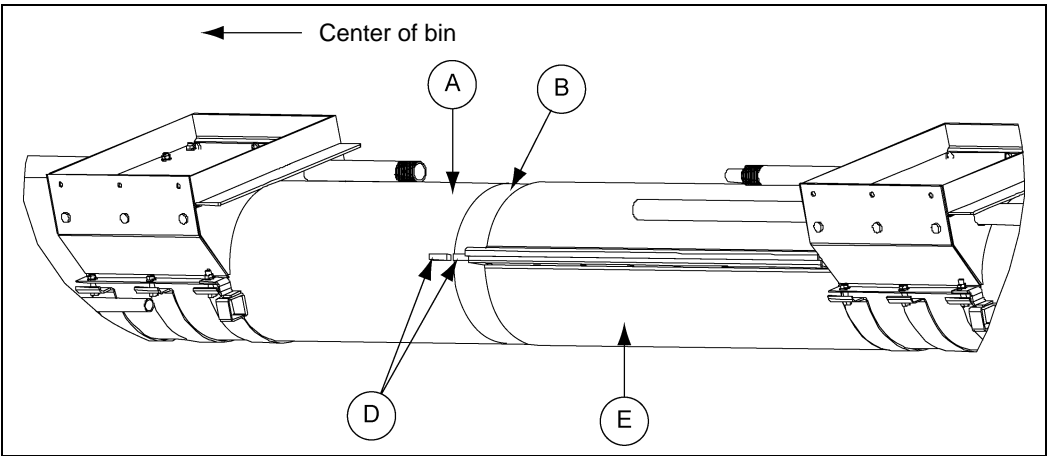

Figure 4J
2. Position the outer unload tube (B) assembly flush against the inner unload tube (A) assembly, aligning the two (2) keyways (D) so that they are inline and making sure all of the intermediate wells are level with the centerwell. (See Figure 4J.)